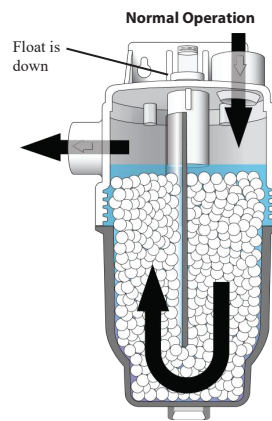
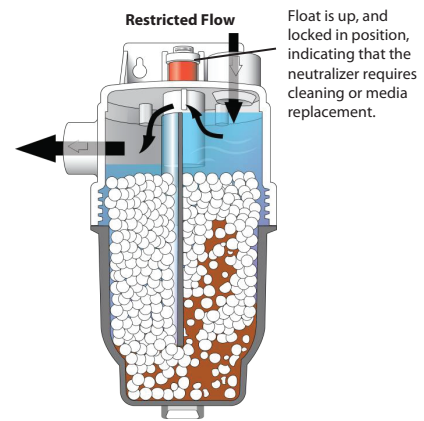

Figure 2: Direction of Condensate Flow at Normal Operation (Float in DOWN position)
Figure 3: Imbalance Due to Restricted Flow (Float in UP position)
- The float should be down during normal operation (see Figure 2). If flow in the neutralizer becomes restricted, the float will rise and lock in position, indicating that the media should be cleaned or replaced (see Figure 3). After replacing the media, reset the float by pressing it back to the down position.
- Monitor the cleanliness, level of the neutralization media, and pH level in the neutralizer monthly. Remove any precipitate coating or debris found to prevent blockages. Check the pH level at the outlet of the neutralizing kit using a suitable pH test strip paper or an electronic pH meter for precise measurement. The neutralizing media should be replaced when the pH level drops below the minimum level of the local water authority, when the float rises (see Figure 3 above), or after one (1) year, whichever comes first. For replacement media, contact your local Navien distributor.